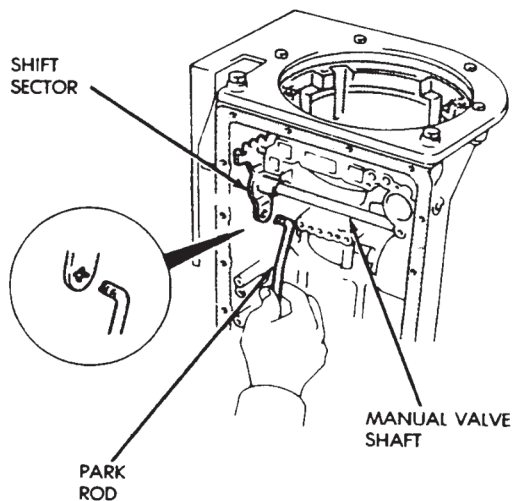
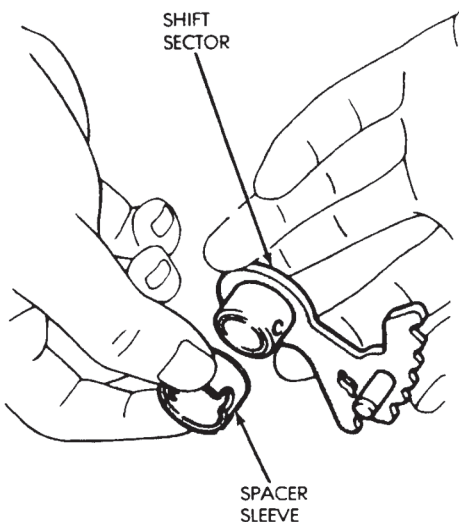

Fig. 21 Removing/Installing Park Rod
Fig. 25 Installing Spacer Sleeve On Sector
- (4) Remove park rod from shift sector (Fig. 21).
- (11) Install new spacer sleeve on sector (Fig. 25).
- (12) Lubricate manual valve shaft and install it in case.
- (13) Lubricate sector and sleeve and install them on shaft.
- (14) Align hole in spacer sleeve with notch in sector. Then install shift sector roll pin. Tap pin into sector and shaft and stake sleeve to sector and shaft securely.
- (15) Connect park rod to sector (Fig. 21).